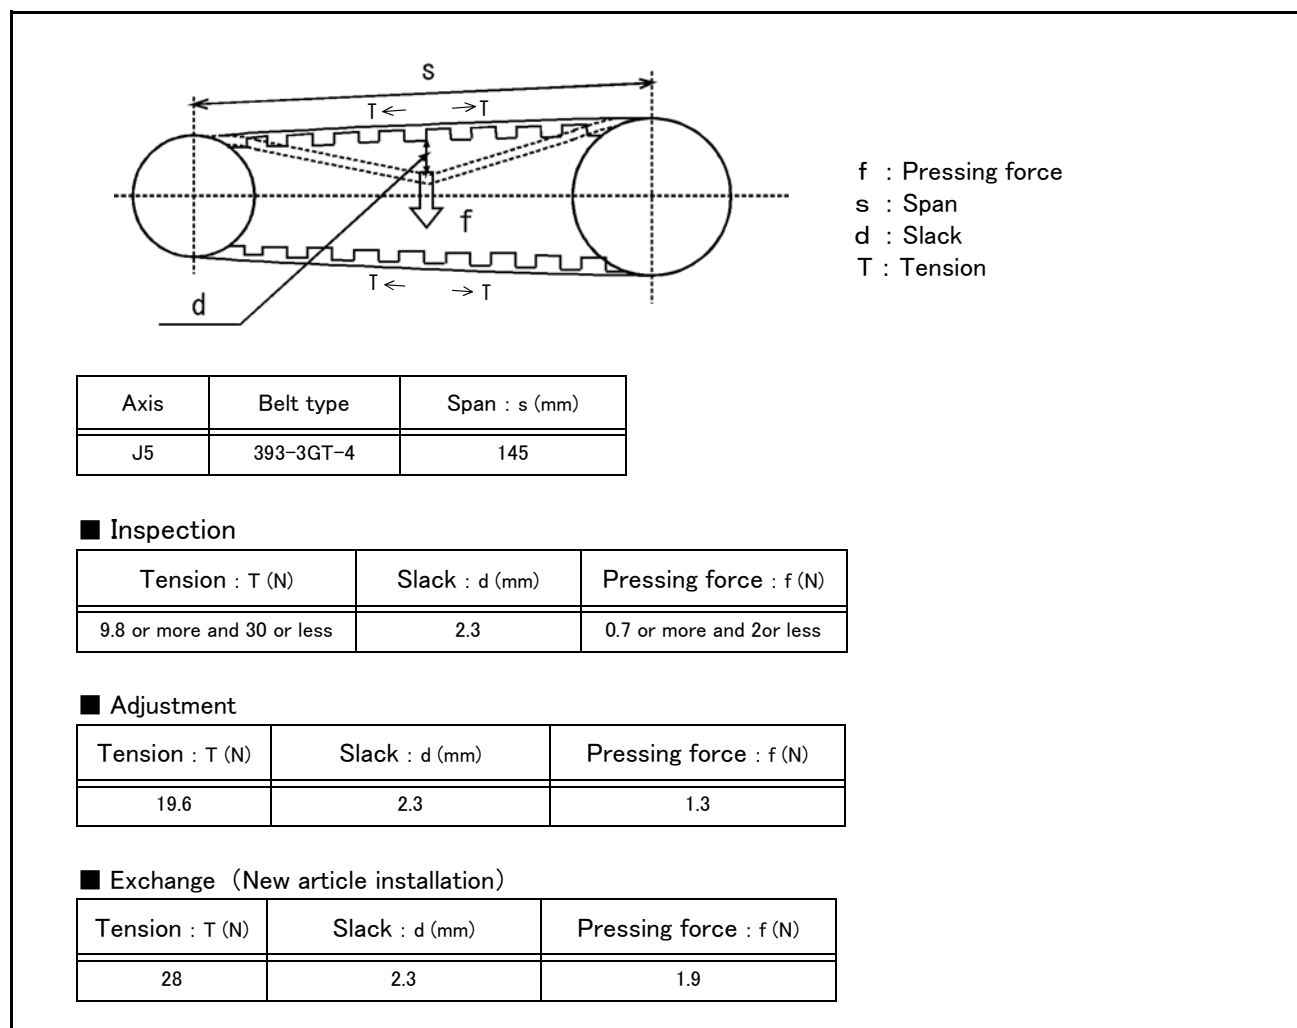

Fig.5-5 : Belt tension
- 3) Visually confirm that the symptoms indicated in "(1) Timing belt replacement period" have not occurred with the timing belt.
- 4) Confirm that the belt tension is adjusted to slacken approx. 2.3mm when the center of the belt is lightly pressed with a finger (approx. 1.3N) as shown in "Fig.5-5 : Belt tension".
The detailed adjustment (tension) is shown in Fig. 5-5.
The lubrication specifications for each place are shown in Fig. 5-5.